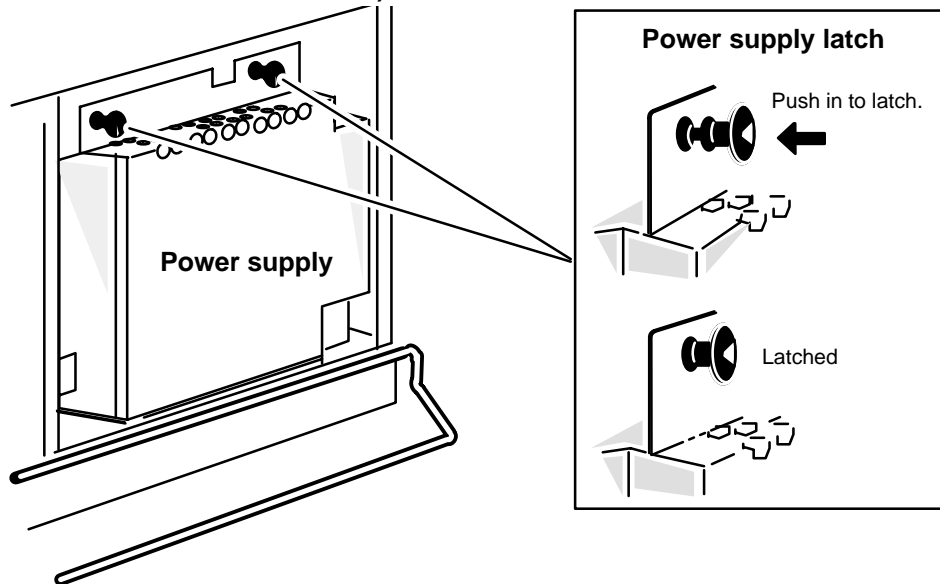

Figure 12-7 Securing the Power Supply to the Computer Unit
4. Secure the power supply to the computer unit by pushing in the two power supply latches shown in Figure 12-7.